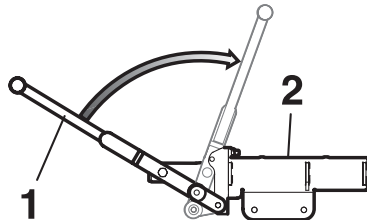

Fig. 23
- Push the hand lever (1) on the master cylinder (2) slowly back in. The trailer coupling remains open and is ready for hitching (Fig. 23)